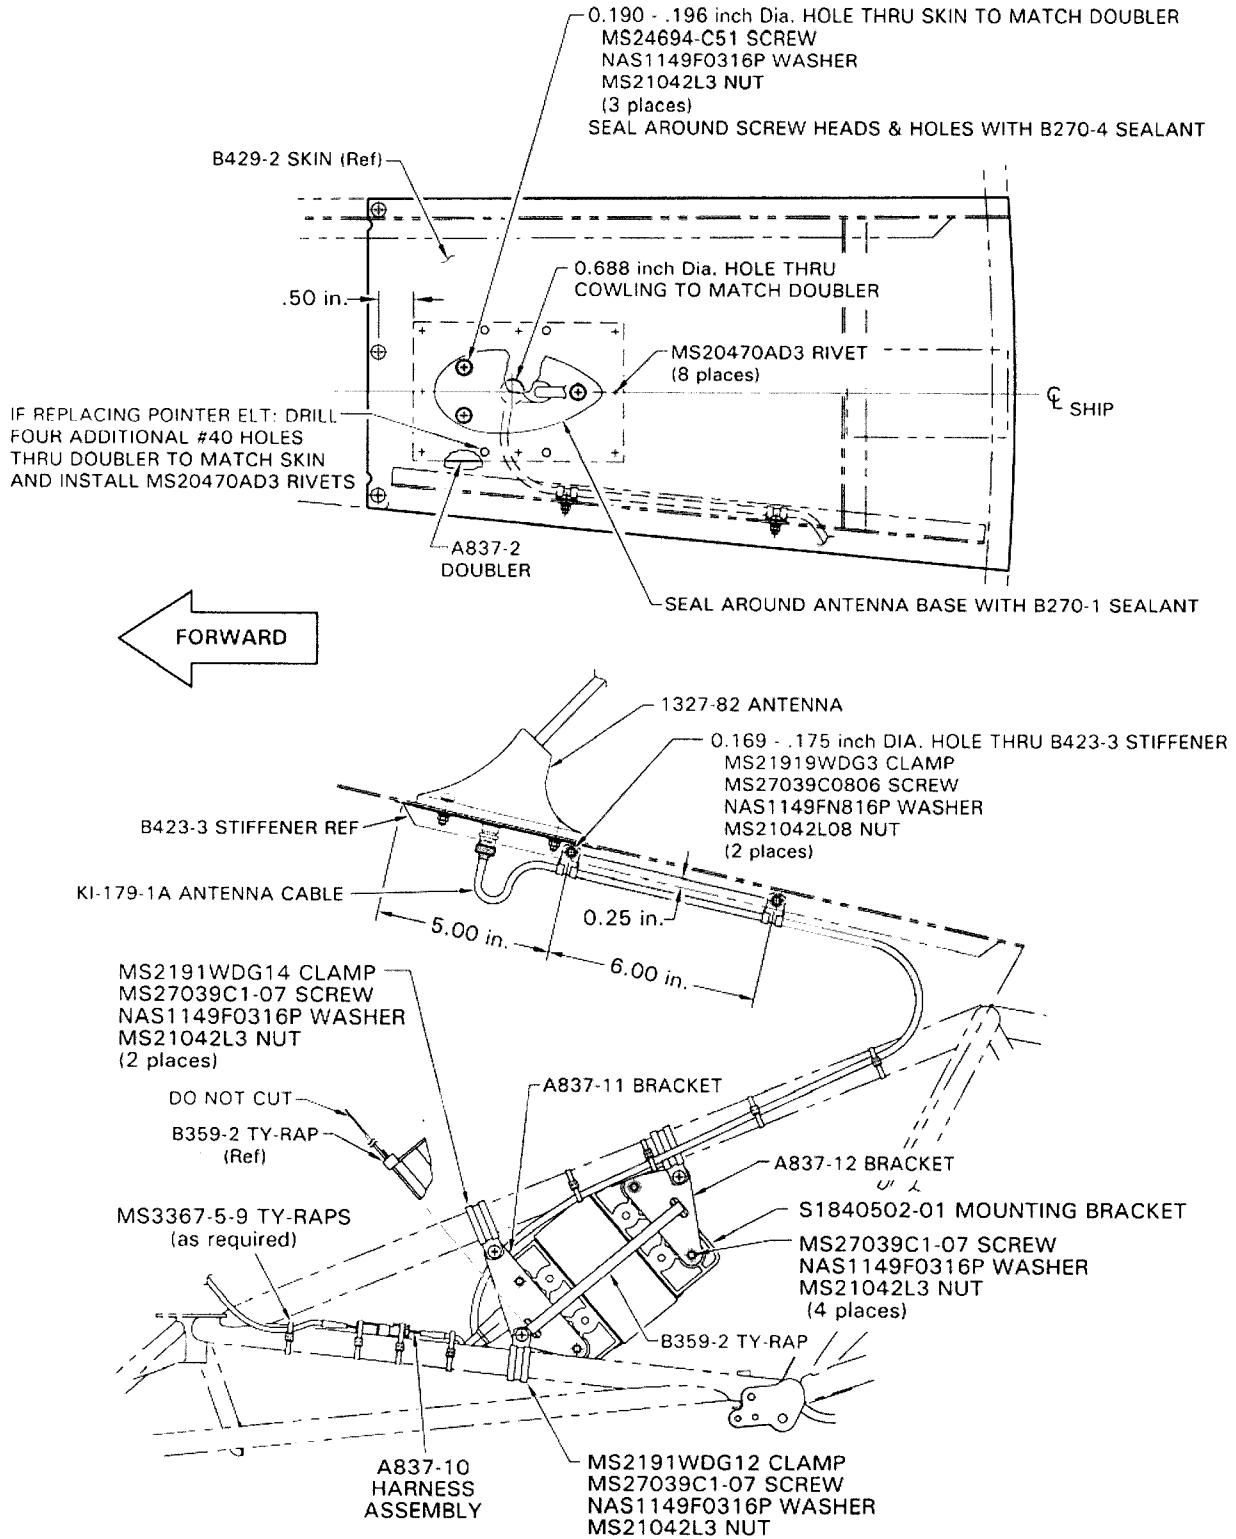

Figure 3 ELT & ELT ANTENNA INSTALLATION
7. Attach A837-11 & A837-12 brackets to S1840502-01 mounting bracket with supplied hardware per Figure 3. Install mounting bracket assy on left side of upper frame with clamps per Figure 3.
13. Position A837-2 doubler on inside of B429-4 aft cowling skin per Figure 3. Drill thru doubler's pilot holes with #40 drill and secure doubler to skin with a sheet fastener as each hole is drilled. For skin having rivet holes from a previously installed ELT antenna, align doubler's forward pilot holes with existing holes in cowling, secure with sheet fasteners, and additionally match drill A837-2 doubler thru non-aligning holes in skin. Using doubler as a template, match drill center 0.688-inch diameter hole and three surrounding 0.190-inch diameter holes in skin. Remove doubler and deburr skin and doubler. Attach doubler to skin using 8, or 12, MS20470AD3-4 rivets, as applicable.
14. Drill and deburr two 0.170 inch diameter holes in B423-3 (formerly A032-12) stiffener per Figure 3.
15. Install 1327-82 antenna over the 0.688-inch diameter hole per Figure 3. Seal around base with B270-1 sealant. Seal over screw heads and holes with B270-4 sealant.
16. Reference Figure 3. Install aft cowling. Connect KI-179-2A antenna cable to antenna, route cable to ELT mounting bracket, and secure cable to frame with ty-raps.
19. Install ELT on mounting bracket. Install B359-2 ty-rap per Figure 3 and do NOT trim it. Ensure clearance exists between ELT installation, including B359-2 ty-rap, and drive train.